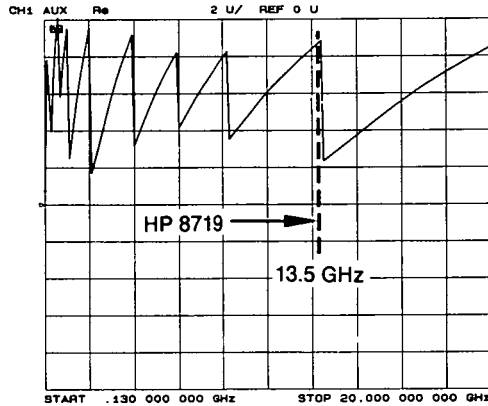

Figure 3. Fractional-N Tuning Voltage Waveform at Abus Node 21
Fractional-N Checks With ABUS. Press **[2] [1] [x1]** and compare the fractional-N tuning voltage to Figure 3.
- If the voltage waveform resembles Figure 3 but the counter values do not match Table 1, A14 is almost certainly faulty.